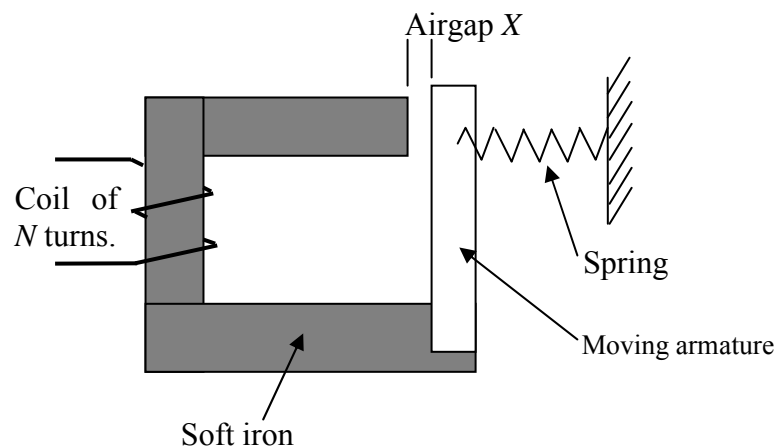

Figure 1 – Simple relay
- b. For a particular simple relay shown as figure 1,  $N = 1200$  turns, The cross sectional area  $A = 100\text{mm}^2$ , and airgap length  $X = 5\text{mm}$  when the armature is in the open position, and  $X = 2\text{mm}$  when the armature is in the open position.